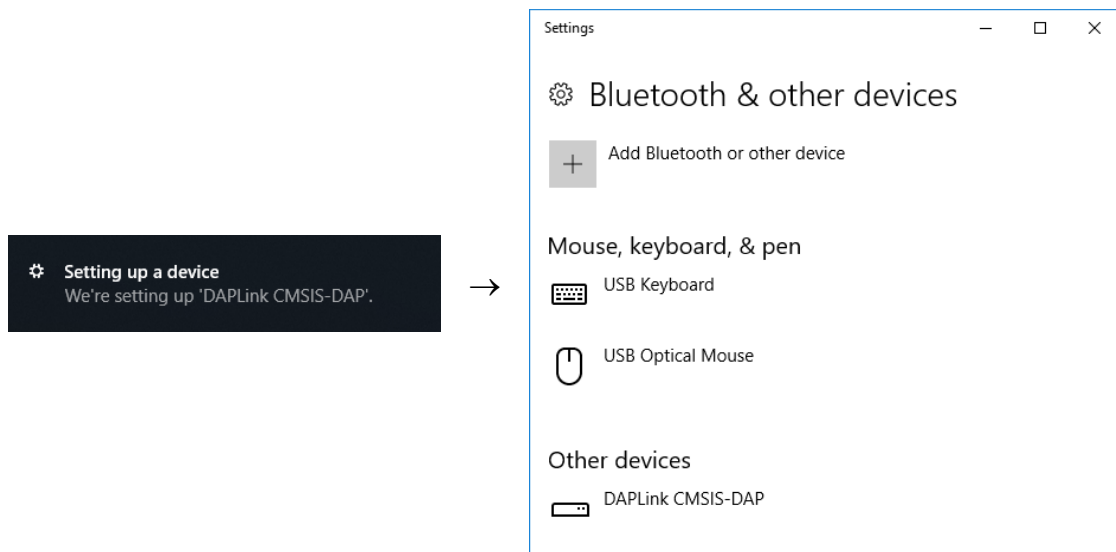

Figure 3. Windows device settings
- ii. Next, Windows should generate a notification that it is setting up a device. It is not necessary to do anything, but clicking the notification will launch the Windows device settings window. After setup, DAPLink CMSIS-DAP will appear under Other devices without any error messages, as shown in Figure 3.